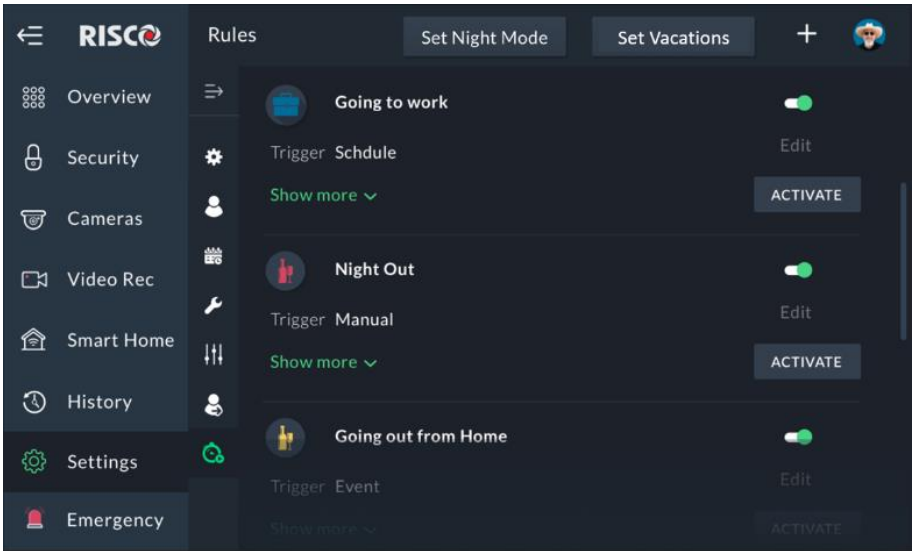

Figure 114: Rules Screen
1. From the Rules screen above (see Figure 114: Rules Screen), click the “Set Vacation” button; the following screen is displayed.